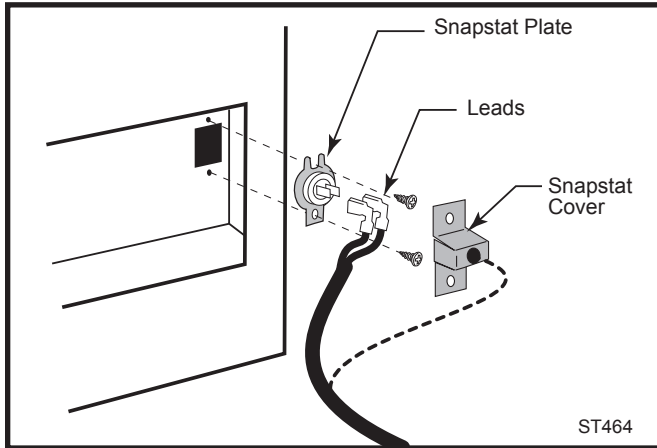

Fig. 17 Install snapstat.
4. Using two sheet metal screws from the fan kit, attach the Snapstat Plate to the Inner Shroud as indicated in Figure 17.